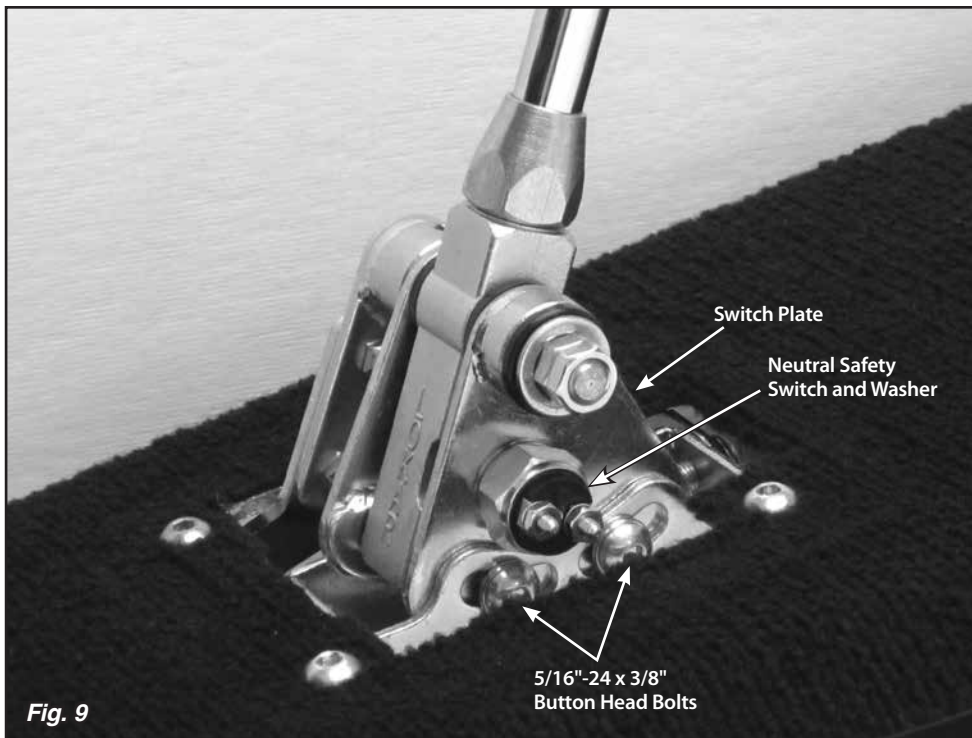

Fig. 9
**Step 14:** Remove the neutral safety switch and washer (**Fig. 9**) from the right side of the Shifter using a 7/8" wrench or socket.
**Step 15:** Loosen, but do not remove, the two 5/16"-24 x 3/8" button head bolts that attach the right side of the floor mount mounting bracket to the switch plate (the bolts are in curved, slotted holes). **Fig. 9**